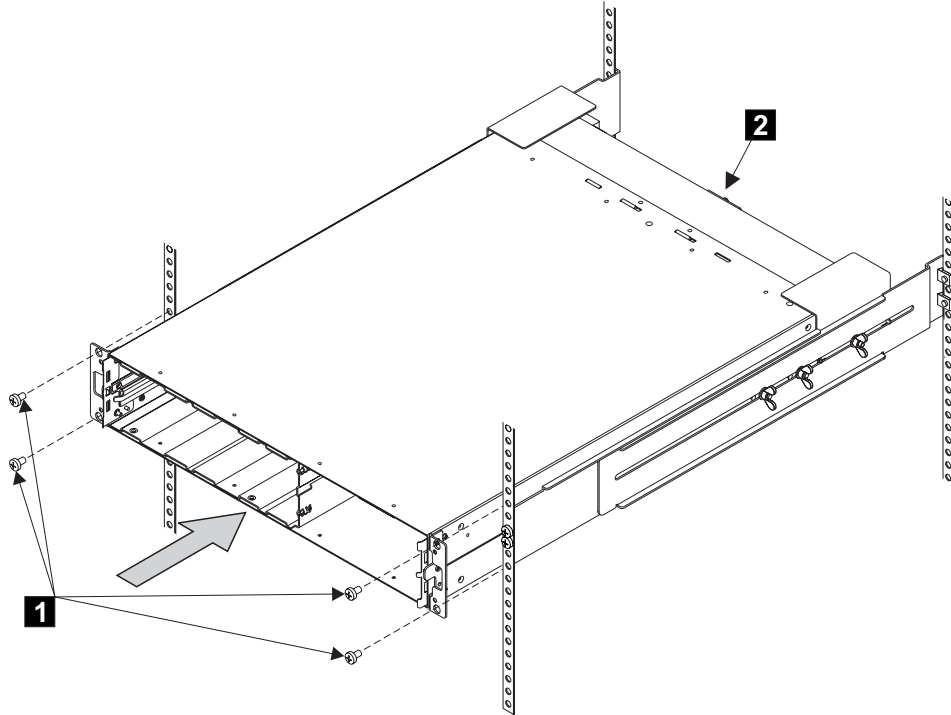

Figure 147. Replacing the 2145 UPS into a rack
5. Install the front flathead screws **1** (see Figure 147 on page 310).